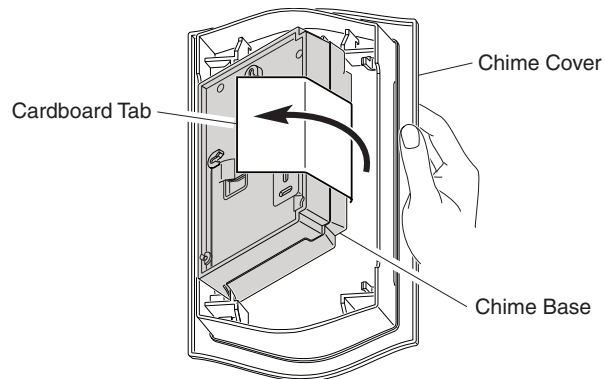

Figure 1
2. With other hand, slowly pull the cardboard tab to remove base from cover (see Figure 1). **Note:** Notice the hinged action of the base as it is removed from the cover. This same hinged action will take place when the cover is installed on the base after the base is installed on the wall.